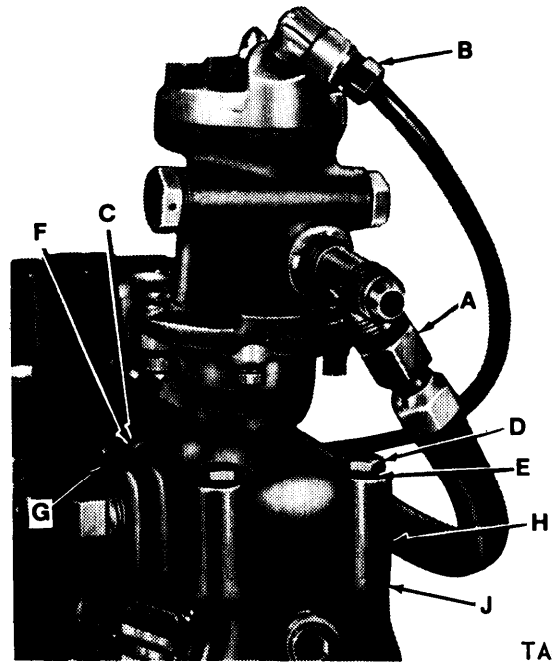

Figure 3-7. Removing fuel density compensator (early code F pumps).
3-9. Removal of Fuel Density Compensator Assembly and Governor Cover and Stop Plate and Bridge. a. General The fuel density compensator assembly is mounted above the governor housing. A hose or tube (A, fig. 3-7) connects the density compensator to the hydraulic head and carries fuel under pressure to the head. Excess or overflow fuel is carried from the density compensator to the overflow valve assembly by a tube (B).
(1) *Early code F injection pump.* Refer to figure 3-7. Remove hose assembly (A) and tube (B) from tees and elbows. Remove and discard locking wire and seal (C). Remove four cap screws (D), lockwashers (E), tamper proof cover (F) and spacers (G) securing compensator to governor housing. Tap fuel density compensator (H) with a soft hammer to break gasket seal and remove fuel density com-